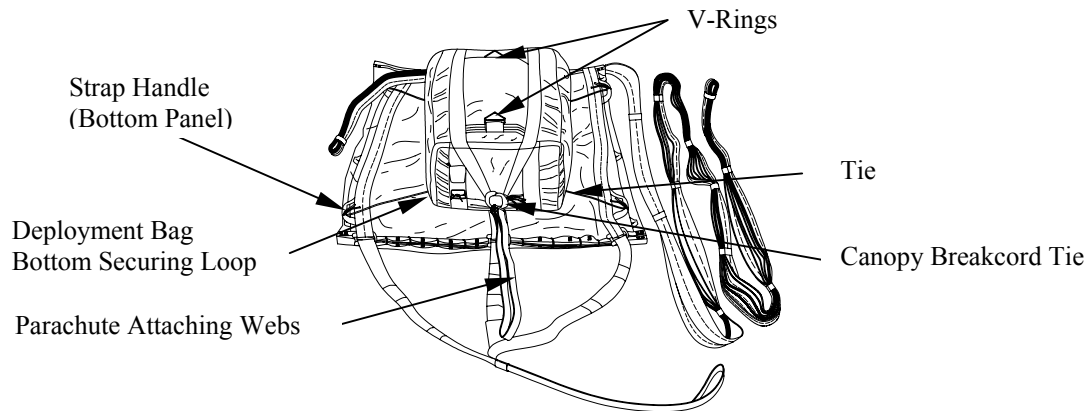

Figure 13. 15-Foot Extraction Parachute Secured to Extraction Line Bag.
- c. Pass the type I, $\frac{1}{4}$ -inch cotton webbing one turn double, through canopy bridle loop, around deployment bag bridle loop straps and through both connector links. Secure tie with surgeon's knot and locking knot (figure 13).